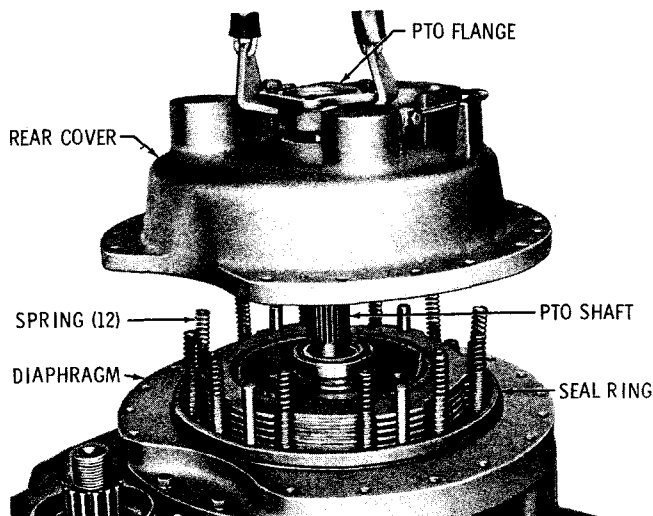

Fig. 5-21. Removing rear cover assembly
(2) Attach a sling to the PTO flange (fig. 5-21). Remove the rear cover assembly, PTO shaft, and attached parts as a unit. Refer to paragraph 6-14a and b for rear cover assembly rebuild instructions.